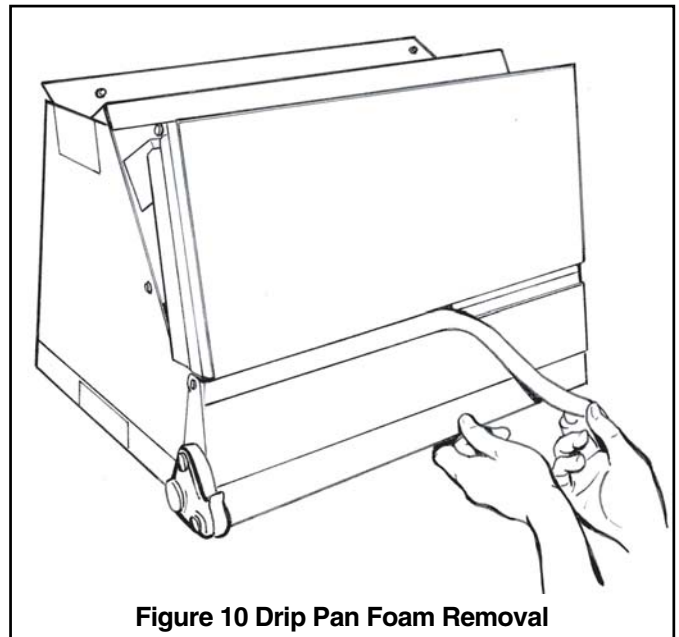

Figure 10 Drip Pan Foam Removal
- d. **For maximum efficiency**, the horizontal drip tray should be removed. See Figures 10, 11 and 12. Tray removal requires that the coil be removed by sliding the coil out on the coil channel supports. For the TEE3D40-65 units, there is a coil support tab at the top of the coil connected to the case that must be removed first. Remove 1 inch insulation strip covering the lip of the drip tray. The tray is detached by removing the two screws at the drain pan. Remove the two screws holding the two brackets at the top of the coil. Remove drip tray by gently breaking the seal between the drip tray and drain pan.
- d. **For maximum efficiency**, the horizontal drip tray should be removed. See Figures 10, 11 and 12. Tray removal requires that the coil be removed by sliding the coil out on the coil channel supports. For the TEE3D40-65 units, there is a coil support tab at the top of the coil connected to the case that must be removed first. Remove 1 inch insulation strip covering the lip of the drip tray. The tray is detached by removing the two screws at the drain pan and the two screws holding the two brackets at the top of the coil. Remove drip tray by gently breaking the seal between the drip tray and drain pan.